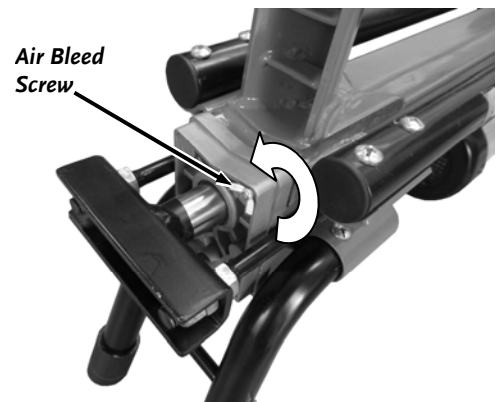

Figure 3
- It is important that the Air Bleed Screw is open when you use the Electric Log Splitter (**Figure 3**). Open the Air Bleed Screw by turning it counter-clockwise three to four times. Failure to open the Air Bleed Screw before using could damage the Electric Log Splitter.
1. Prior to using the Electric Log Splitter, open the Air Bleed Screw by turning the Thumbscrew counter-clockwise three to four times (**Figure 3**). **Leave the Air Bleed Screw open in this position while using the machine.** We recommend closing the Air Bleed Screw after each use, but you can leave the Air Bleed Screw open when you are finished.